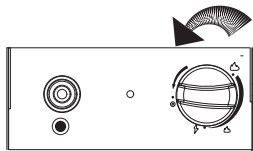

Figure 3
- b. Depress control knob and turn counterclockwise to **PILOT** (Figure 3).